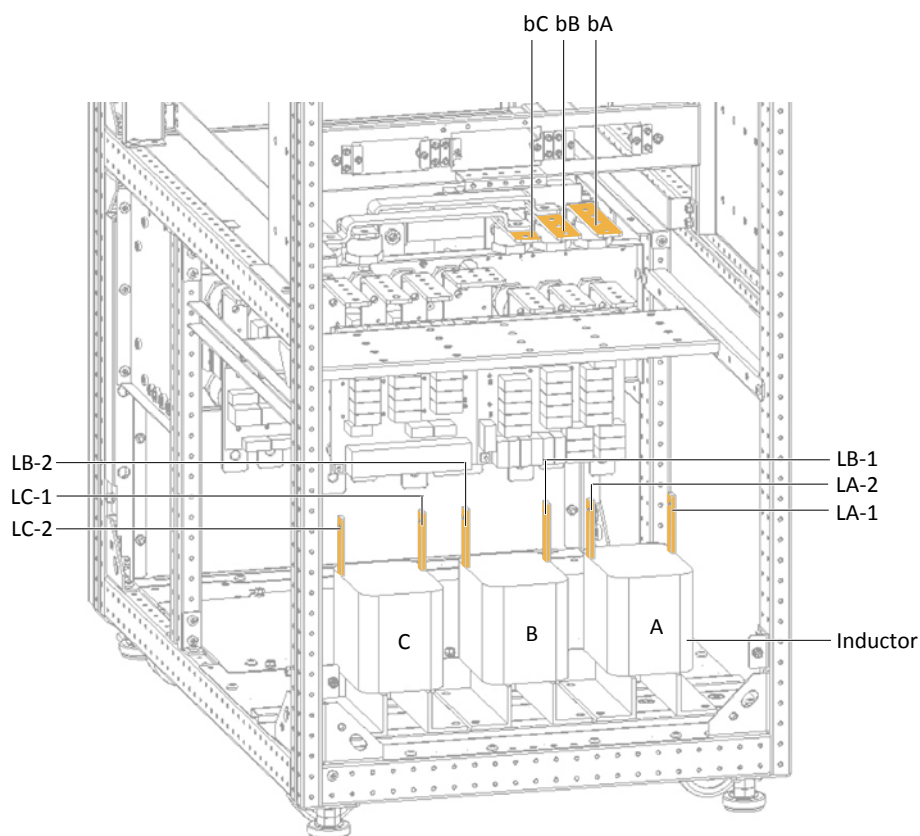

Figure 8-10 Position of bypass load sharing inductors
4. Remove the cables W61, W62 and W63 from terminals bA, bB and bC, see Figure 8-10.
5. Place the three inductors (A, B, C) in the installation position and fix them with twelve hexagon sems screw  $M8 \times 20$ , as shown in Figure 8-10.